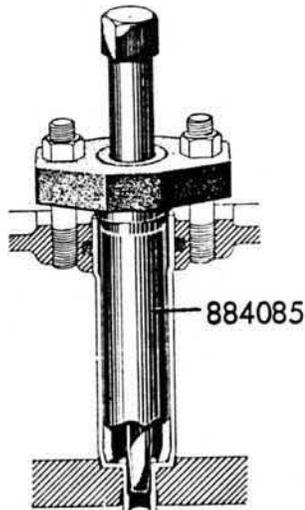

Fig. 9 Spreading the sleeve
4. Screw down the tool until it is located in the thinner part of the injector sleeve and tighten the attaching nuts equally hard. See Fig 9.